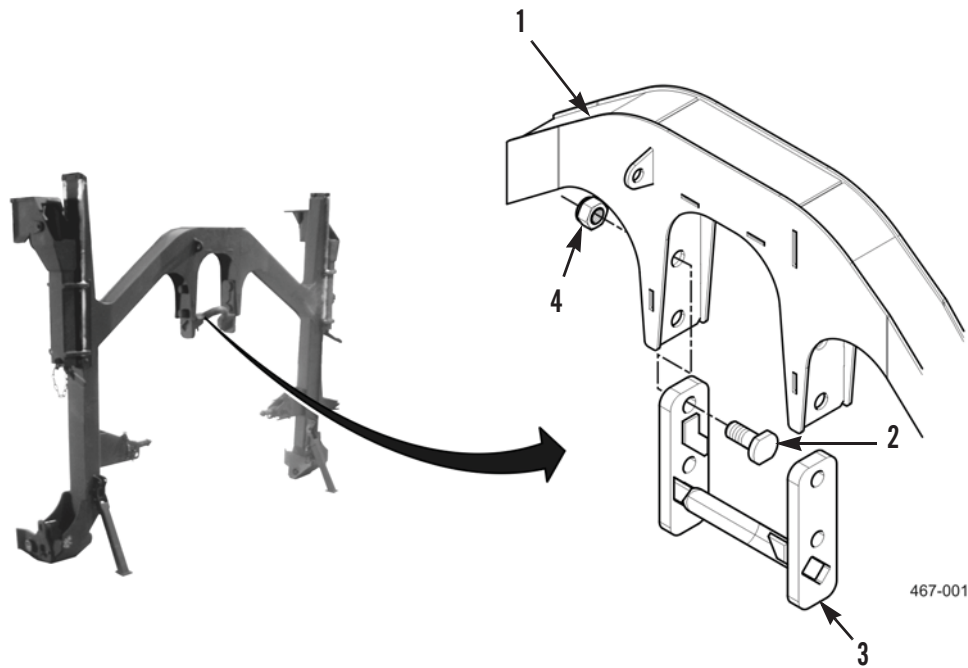

Figure 1. Bail Bar.
Remove four locknuts (Figure 1, Item 4), mounting pins (Figure 1, Item 2), and bail bar (Figure 1, Item 3) from lift frame (Figure 1, Item 1). Discard locknuts.
1. Apply thread adhesive to four mounting pins (Figure 1, Item 2).